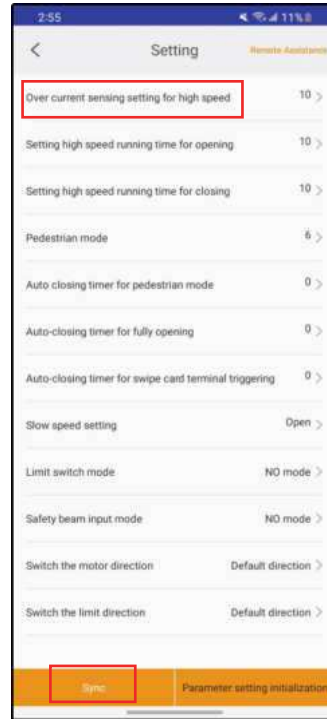

Fig 12
Step 2. Set the parameters on the APP. (Fig 12)